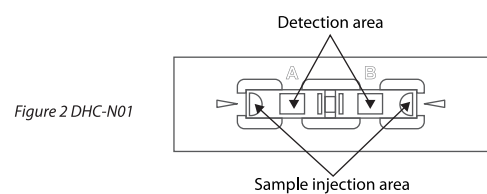

Figure 2 DHC-N01
The C-Chip (DHC-N01) is a disposable plastic hemocytometer used for manual cell counting. It consists of surface-patterned two enclosed chambers with two ports for sample injection (Fig. 2).
2. Load 10 μ L of sample into the sample injection area in Fig. 2, so that it fills the chamber by capillary action.
6. Load 10 μ L of sample into the sample injection area in Fig. 2.
2. Load 10 μ L of diluted sample into the sample injection area in Fig. 2.